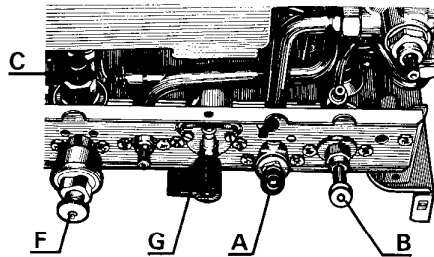

Fig. 34
- 1) Ensure that the isolating valves are open (fig. 34 B and C). **N.B.** Valve (C) must be turned anti-clockwise by the knurled nut until it dislocates from the thread and then pulled out horizontally to its extremity (approximately 30 mm (1 1/4 ins)).
- 2) Turn the lever on the gas service tap (fig. 34) (G) to the left. In the open position the flame sign is to the front.
- 4) Switch to HOT WATER + CENTRAL HEATING (II) on the selector switch (A). The fan will run at low speed.
- 5) Press the ignition button (R) and hold in.
**N.B.** Before commencing any work turn off gas at the gas inlet tap (fig. 34) item (G) and ensure that the electricity supply is disconnected. Isolate water supply and drain Appliance if required.